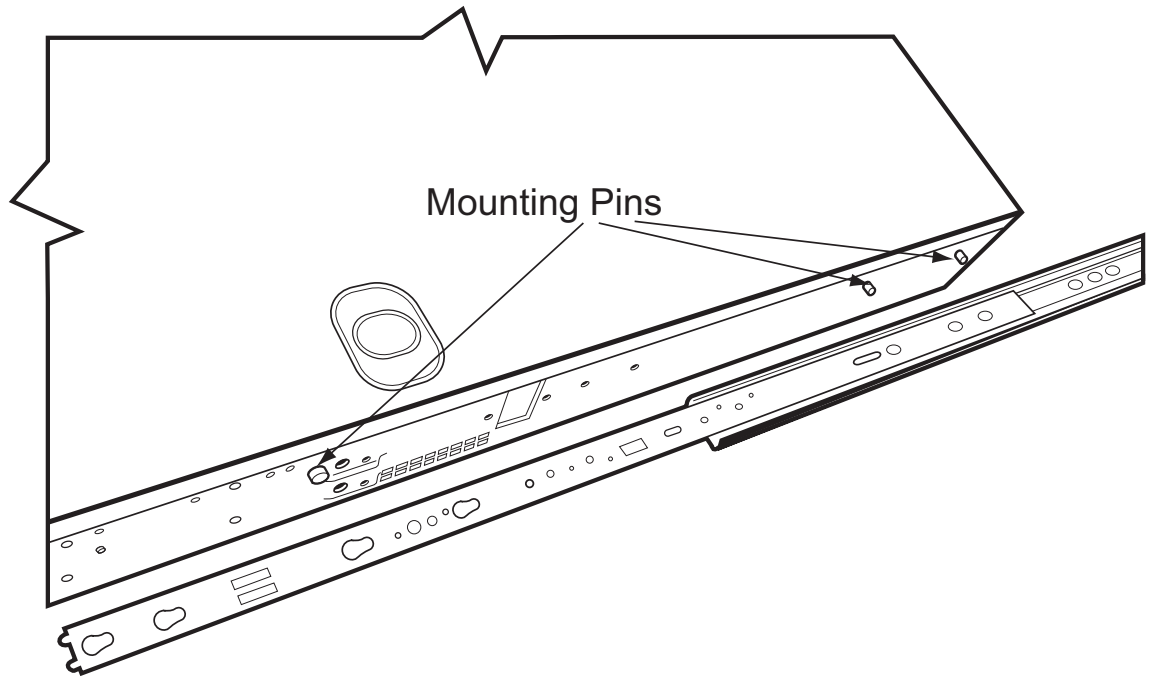
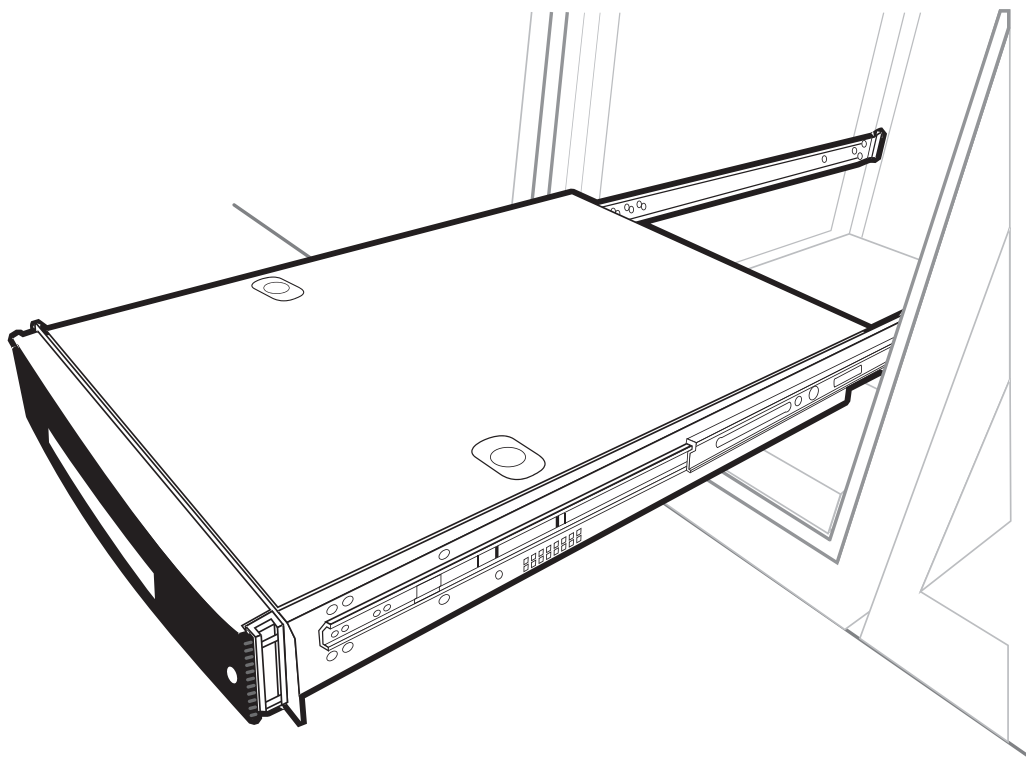

Figure 2.5 Attaching Sliding Rails to the 7800-CTRL Mounting Pins
Figure 2.6 7800-CTRL Installed on Slider Rails in the Fully Extended Position
4. Attach the 7800-CTRL to the rails. See figure 2.5 on page 16 and figure 2.6 on page 17.